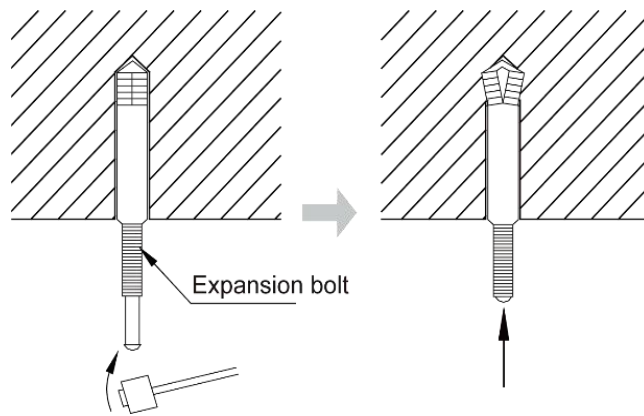

Fig. 5
- d. Insert the M10 expansion bolt into the hole and hammer the nail into the bolt, as shown in Fig. 5.